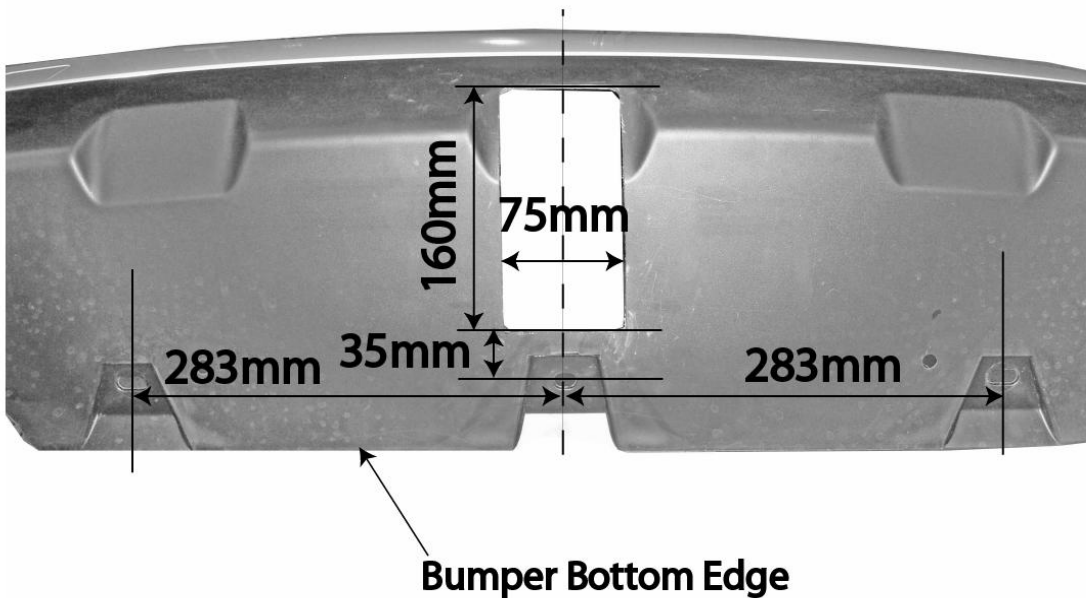

Figure 3 – Bumper Cut out Diagram.
9. Cut the bumper as illustrated in Figure 3.